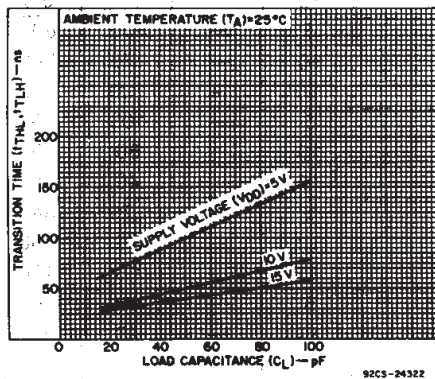

Fig. 6 - Typical transition time as a function of load capacitance.
■ CD4521B consists of an oscillator section and 24 ripple-carry binary counter stages. The oscillator configuration (using IN1) allows design of either RC or crystal oscillator circuits. IN1 should be tied either HIGH or LOW when not in use. A HIGH on the RESET causes the counter to go to the all-0's state and disables the oscillator. The count is advanced on the negative transition of IN1 (and IN2). A time-saving test mode is described in the Functional Test Sequence Table and in Fig. 6.